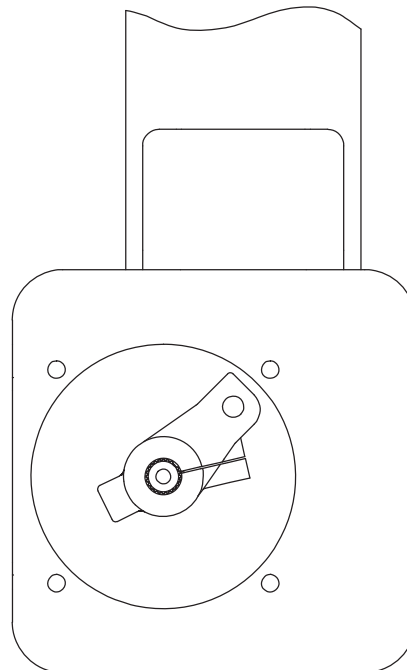

Figure 10. Lever Angle in Valve Closed Position
14. Thread the rod end bearing assembly completely into the turnbuckle (key 57) without torquing.
15. Install the diaphragm (key 3) onto the diaphragm plate (key 4) and line up the perimeter holes in the diaphragm (key 3) and the lower diaphragm casing (key 2). Place the upper diaphragm casing (key 1) onto the lower diaphragm casing (key 2). If necessary, rotate the spring adjuster (key 74) so that the upper diaphragm casing will achieve solid contact with the diaphragm (key 3). Also ensure that the travel stop, in the upper diaphragm casing (key 1), will not contact the diaphragm (key 3) when the casing cap screws and nuts (keys 5 and 6) are tightened.
16. Using a 9/16 inch wrench, secure the upper diaphragm casing (key 1) with cap screws (key 5) and hex nuts (key 6). Tighten the hex nuts (key 6) in the following manner.
19. Install the lever (key 27) on the valve drive shaft as shown in figure 10. **Note: The splined connection is a missing tooth design, ensuring a one-way assembly.**
20. Viewing from the actuator end, rotate the lever counter-clockwise (CCW) to 45 degrees from horizontal as shown in figure 10.